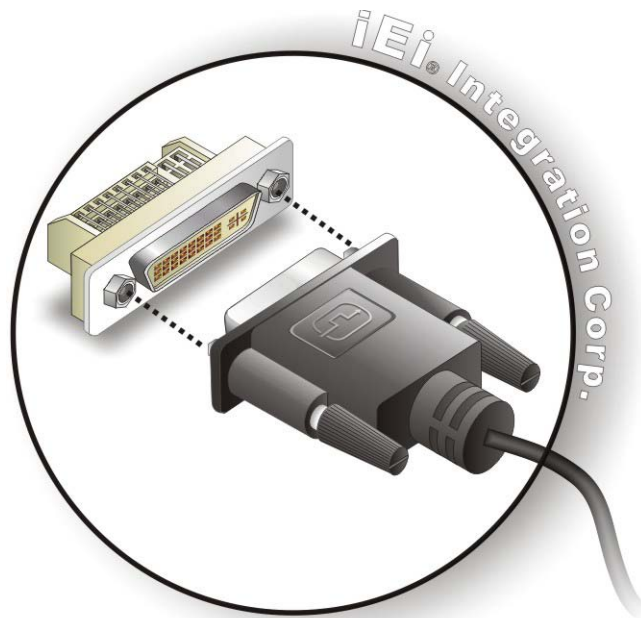

Figure 3-13: DVI Connector
- Step 3: Insert the DVI connector.** Once the connectors are properly aligned with the male connector, insert the male connector from the digital display device into the female connector on the TANK-860-HM86 Series. See **Figure 3-13**.